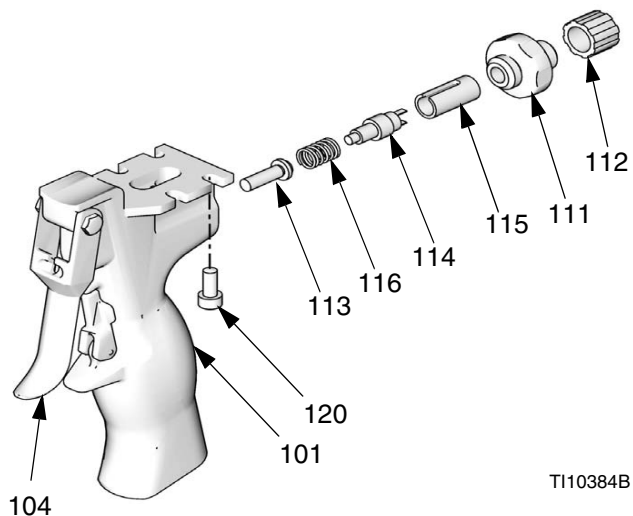

FIG. 8
1. Install the plunger (113) and spring (116). See FIG. 8.
2. Insert the switch assembly (255463) while routing the ground lug (108) through the hole in the top of the handle.
3. Torque plug (111) to 125-135 in.-lb (14-15 N•m).
4. Tighten the strain relief (112).
5. Install the ground screw (110) through the lock washer (109) and ground lug (108). Torque to 15-20 in.-lb (1.7-2.2 N•m).
6. Align the dispense valve on the top of the handle (101). Torque the four screws (120) evenly to 15-20 lb (1.7-2.2 N•m).